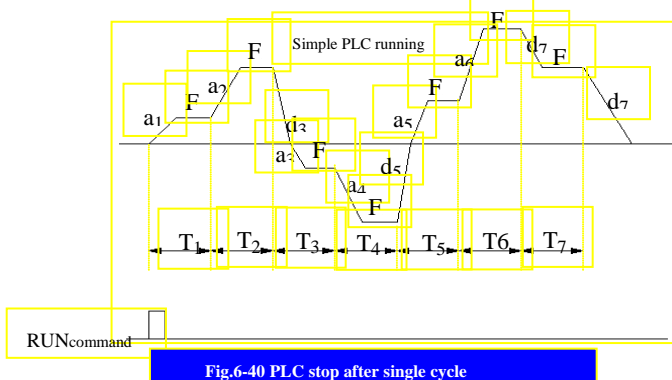

Fig.6-40 PLC stop after single cycle
**The inverter will stop automatically after one cycle. It will restart after receiving a new running command shown as Fig.6-40.**